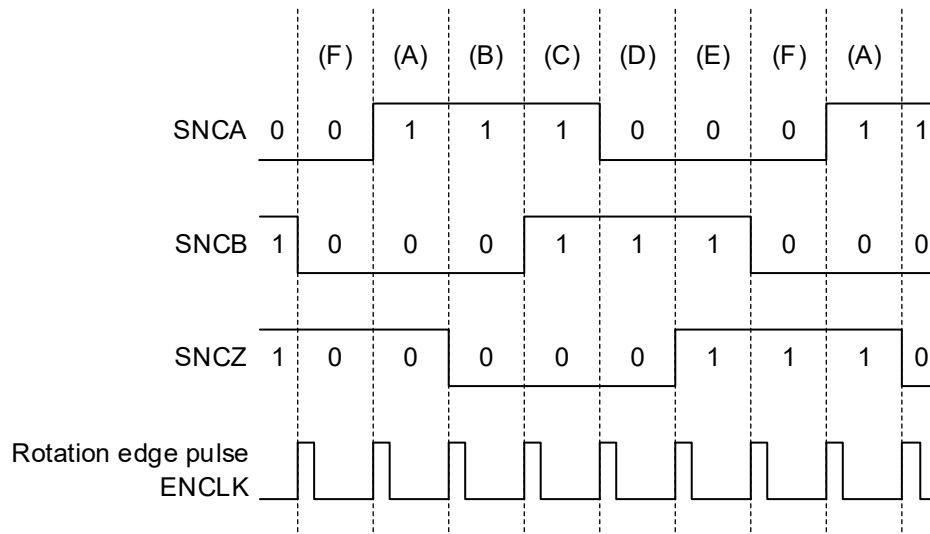
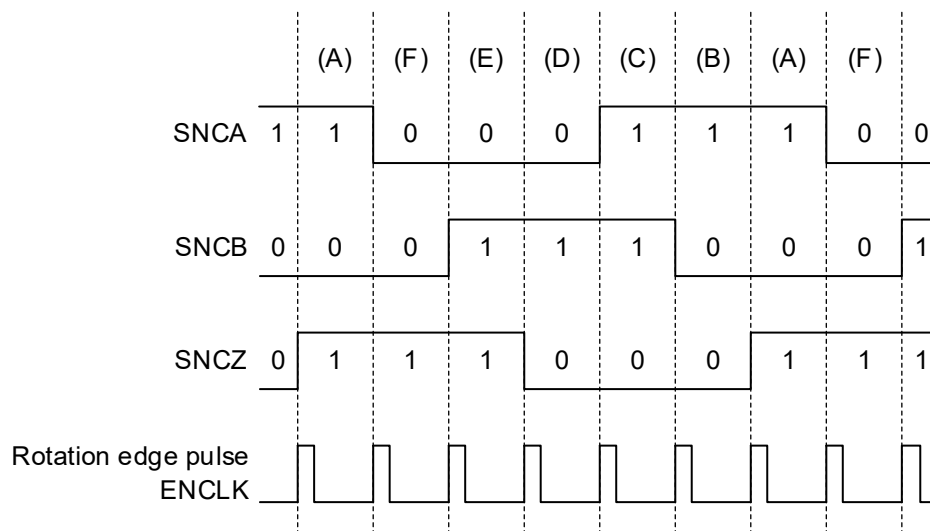

Figure 3.28 SNCA, SNCB and SNCZ Waveform in CW Direction and Rotation Edge Pulse
Figure 3.29 SNCA, SNCB and SNCZ Waveform in CCW Direction and Rotation Edge Pulse
Note: (A) to (F) indicate same ones in Figure 3.28 and Figure 3.29.
In the encoder mode and 3-phase decode mode of sensor mode, the combination (A) to (F) shown in Figure 3.28 and Figure 3.29 is shown in about the skip judgement and edge error judgement.